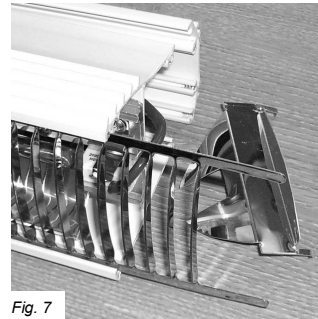

Fig. 7
8. Slide out the side reflector and the guard completely through the open end to fully expose the emitter holder (Fig 7).